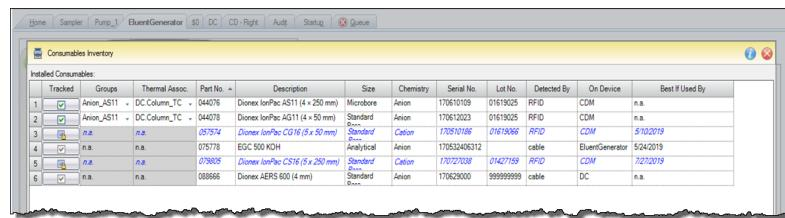

Figure 5-7. Consumables Inventory Window
4. Click **Inventory**. The Consumables Inventory window appears (see Figure 5-7).